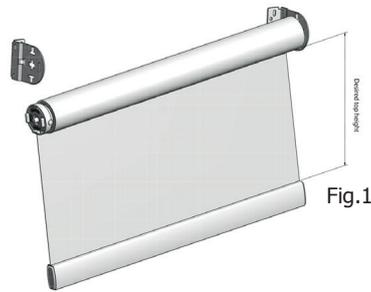

Fig.1
1. With the blind wound up, push fit the blind into the stop end which is the opposite end bracket from the spring. (Fig.1)